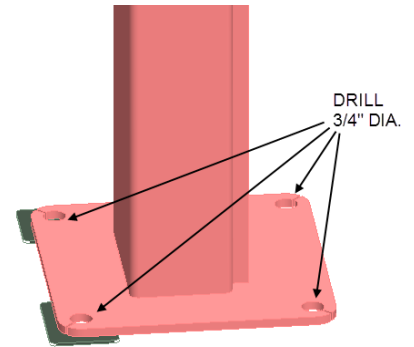

Figure 64
- Using a 3/4" concrete drill bit and rotary hammer drill, drill 3/4" holes for the anchor bolts on the (high side) column. Drill completely through the concrete floor. (**Fig.64**). In case longer anchors are required, supplied anchors can be hammered through concrete